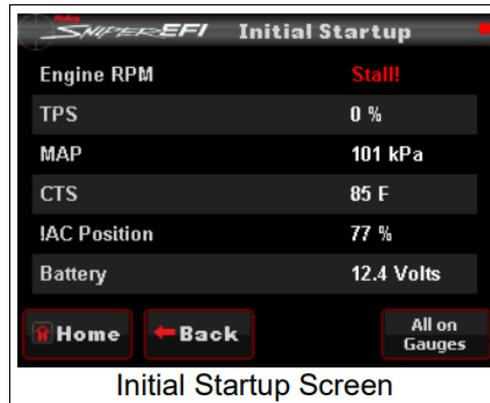

Figure 12
12. To make sure the ECU is getting an RPM signal, look at the "RPM" on the Initial Startup screen of the Sniper EFI handheld. Crank the engine over and make sure it shows RPM (**Figure 12**). To locate this screen, from the HOME SCREEN of the handheld, select the MONITOR icon, then select the "Monitors" screen. Here you should see an icon named "Initial Startup". Select this icon.